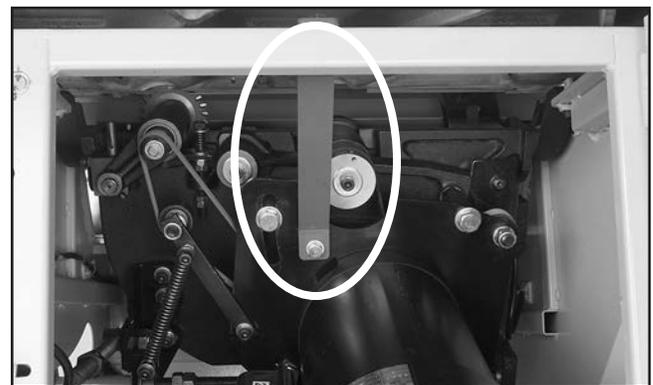

Figure 20. Motor shipping brace.
- Open the cabinet door and remove the motor shipping brace shown in **Figure 20**, then replace the fasteners where they were. (Save the brace for future transport needs.)